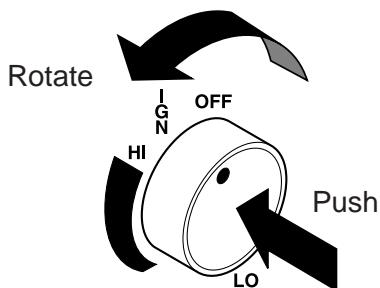

Figure 25 - IGN Position
6. From OFF position, push in gas control knob slightly and turn counterclockwise  to the IGN position. See *Figure 25*. Push in and hold control knob for 5 seconds.